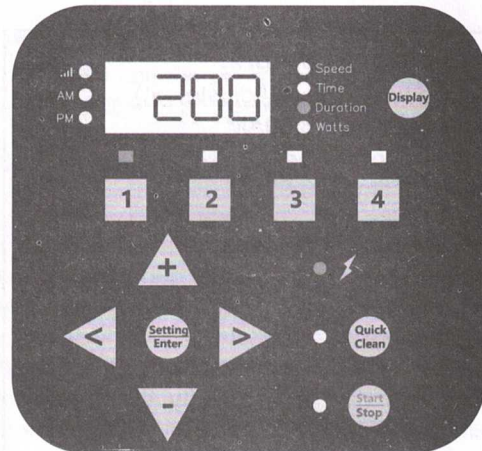

Figure 11
6. Press “1”. SPEED 1 duration will display. The “Duration” parameter LED will begin to blink. See **Figure 11**.